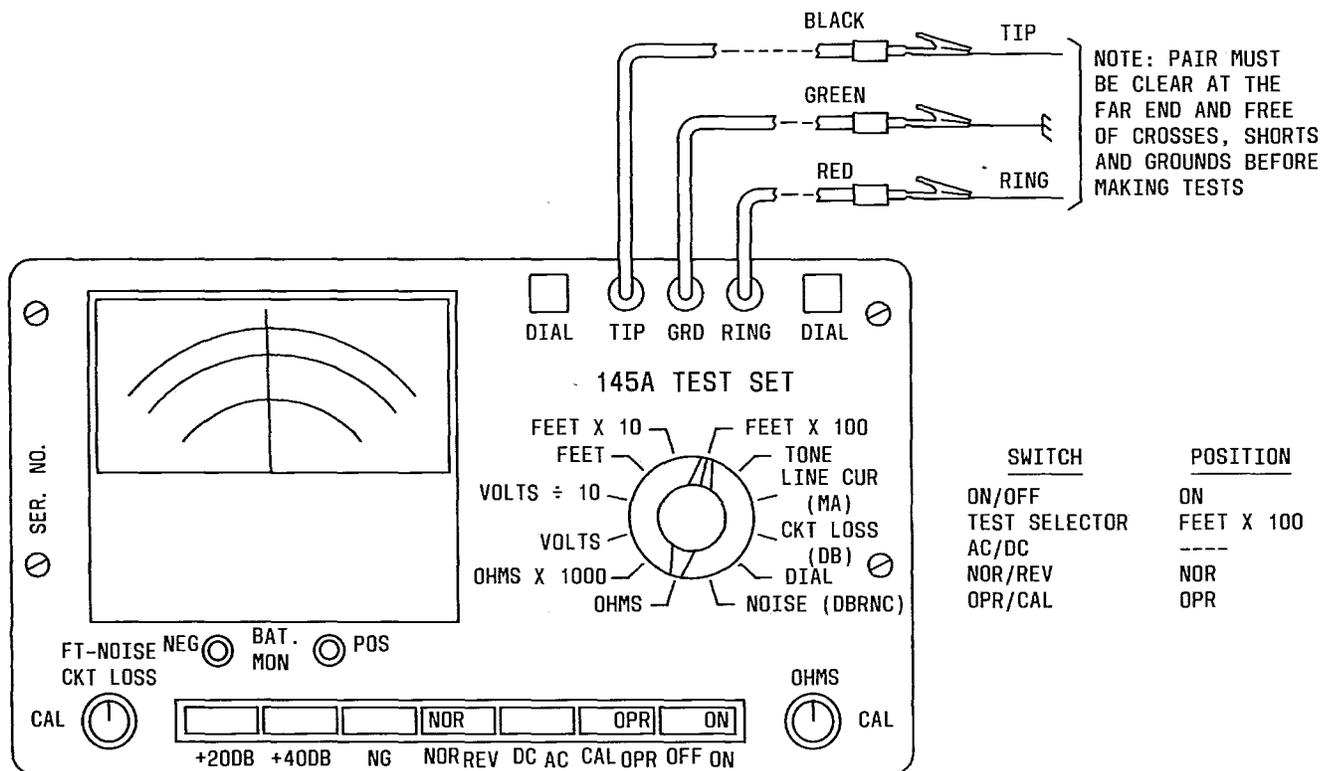

Fig. 7—Pair Length Measurement
4.04 Pair Length Measurement and Open Conductor Locating Tests (Fig. 7):